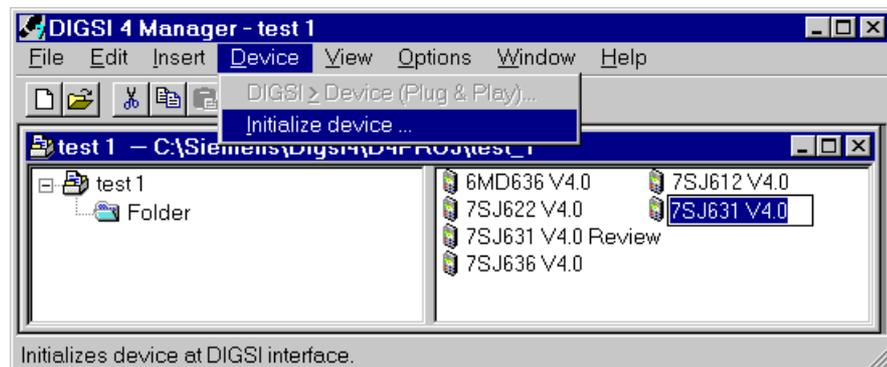

Figure 9-4 Initializing device via DIGSI® 4
- Select **Initialize device** in the menu **Device** (Figure 9-4).